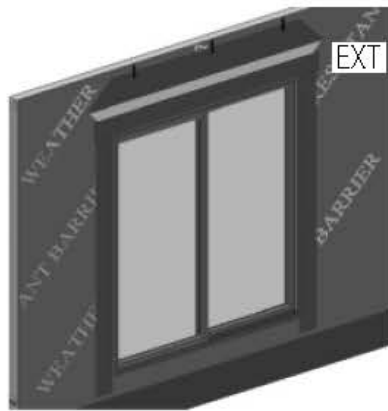

FIG. 18
- C) Cut and apply head flashing. The head flashing should be on top of the drip cap flashing. The head flashing should run slightly past the edge of the side flashing. (Fig. 18)